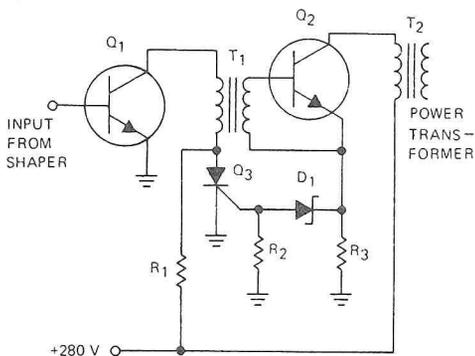

Fig. 4. Detail of Fig. 3, showing automatic shutdown circuit.
Fig. 4 shows the automatic shutdown circuit in detail. Q_1 is the driver transistor, and Q_2 is the output "switch". Circuit operation is as follows: The average output of the circuit is such that a
4. When Q_3 in Fig. 4 turns on, the 280 volt line is shorted to ground, thereby causing the circuit breaker to trip, removing power from the receiver.
5. Q_2 in Fig. 4 serves as a single-ended class A amplifier.